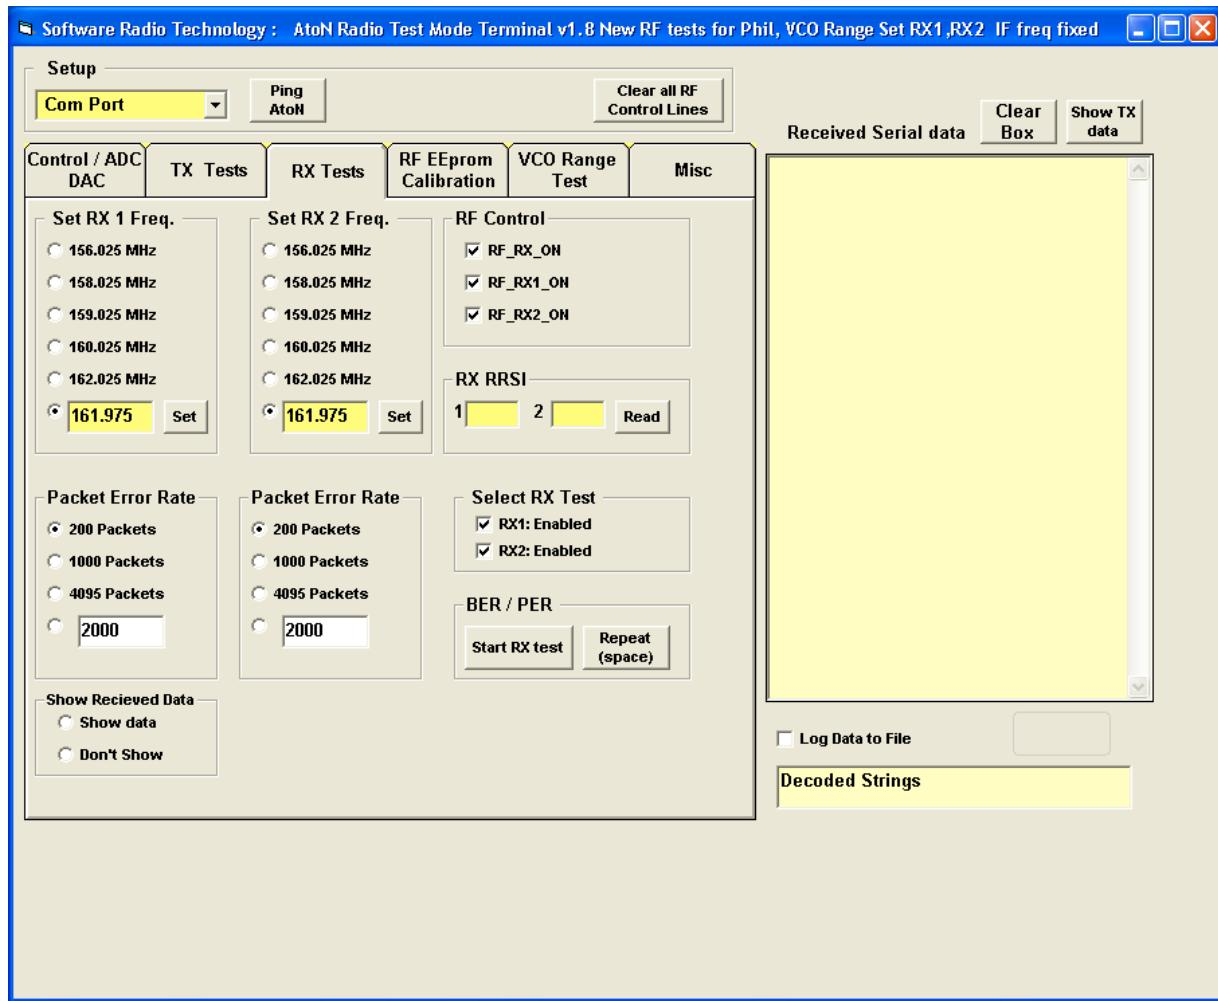

Figure 8B
7. Repeat steps 2 through 6 for AIS 1 (161.975 MHz.) This will require the tester to manually enter the actual freq. in the “**Set RX1 Freq.**” and the “**Set Rx2 Freq.**” fields on the Radio Test Mode Software (see Figure 8B) and then click on “**Set**” to set the parameters. Note: (the RF signal generator must be set to the appropriate test freq. and output levels.)